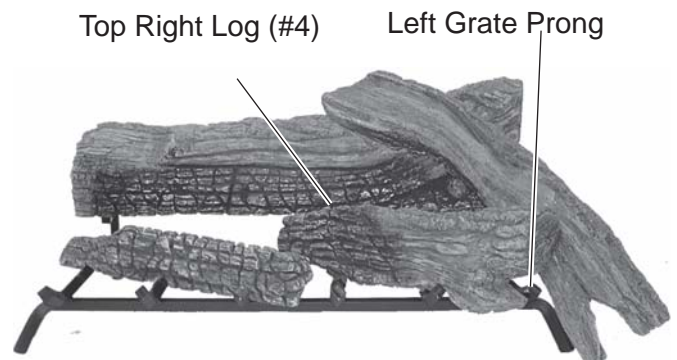

Figure 87 - Resting Top Right Log (#4) on Bottom Left Log
5. Rest right end of Top Right Log #4 on bottom right log. *See Figure 87.*